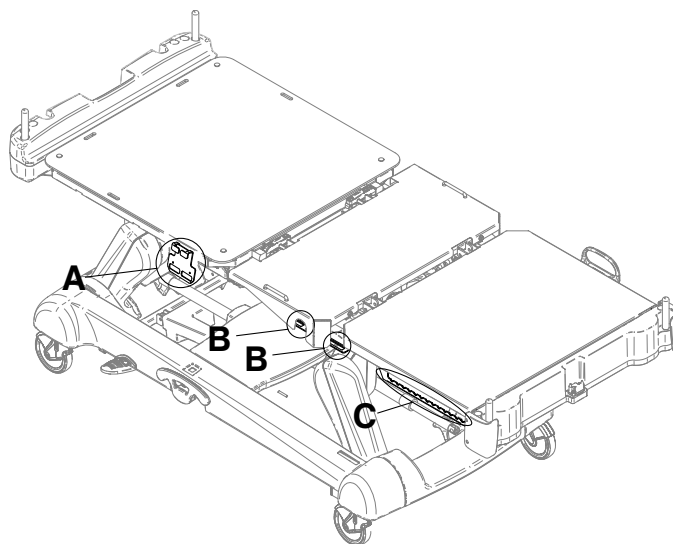

Figure 11: Foley bag hooks
There are two isolated foley bag hooks under the seat section (B) on both sides of the product (Figure 11 on page 30). If you weight the patient with the scale system, the isolated foley bag weight is not included with the patient weight.
There are four foley bag hooks under the fowler section (A) and foot section (C) on both sides of the product (Figure 11 on page 30). If you weigh the patient with the scale system, the foley bag weight is included with the patient weight.